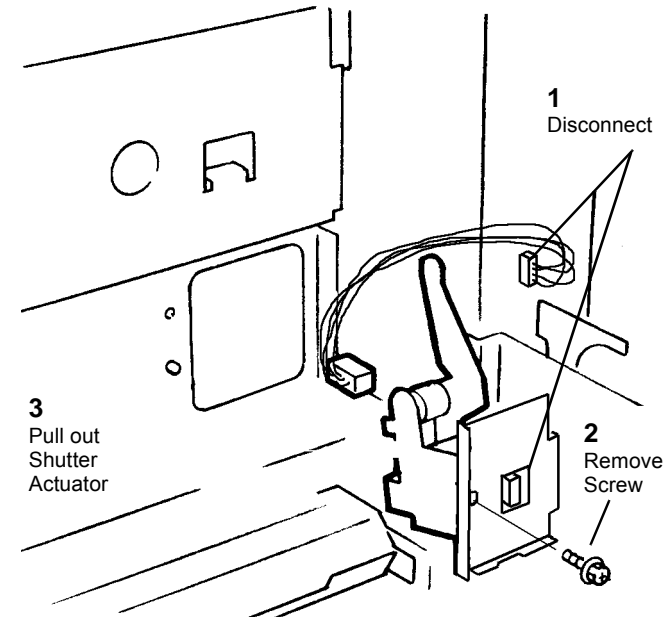

Figure 1 Removing Shutter Actuator
8. Remove Shutter Actuator(Figure 1).